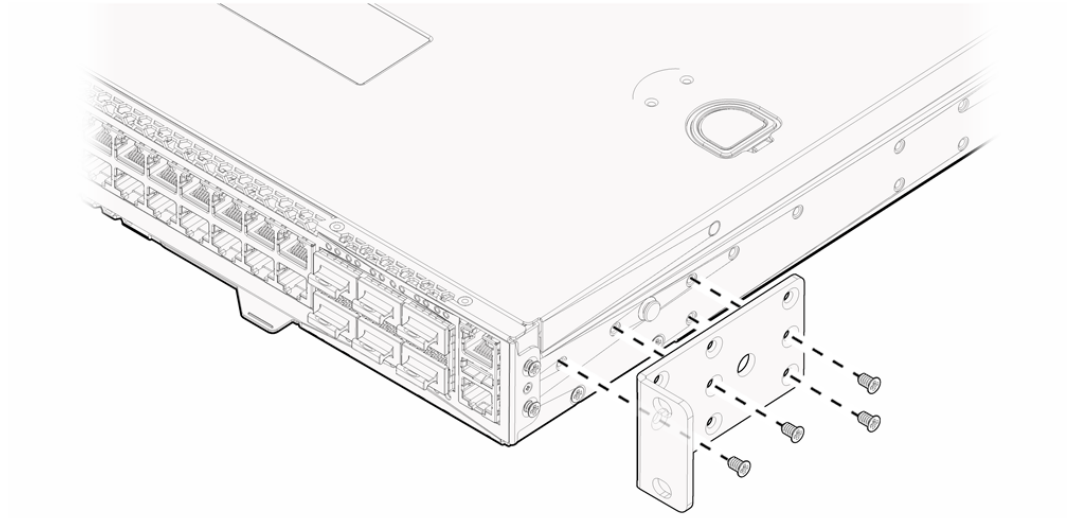

Figure 16: Attaching a Short Mounting Bracket (Ear): Front of Switch
- a. For a front mount, position the bracket over the holes so that the flange (ear) is even with the front of the switch, as shown in Figure 16.